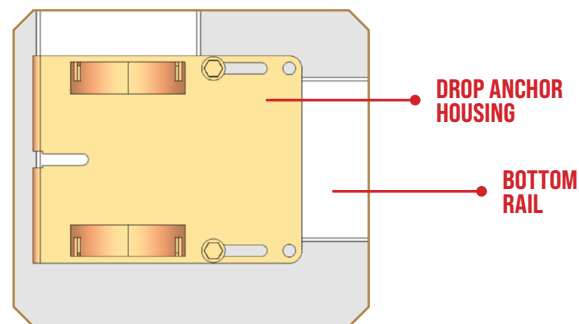

Figure 2
1. Clamp the drop anchor housings onto the gate ends using the two fastener sets (sets include 2 barrel nuts and four $\frac{3}{4}$ " bolts). The nuts fit closely to the top and bottom surfaces of the bottom rail (Figure 2).